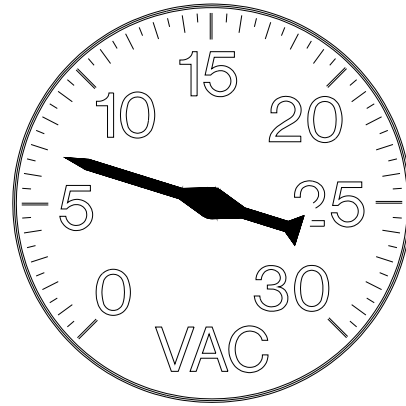

Figure 6
4. With the nozzle open, a normal vacuum reading is 6-8 inches of mercury for normal suction. See Figure 6.